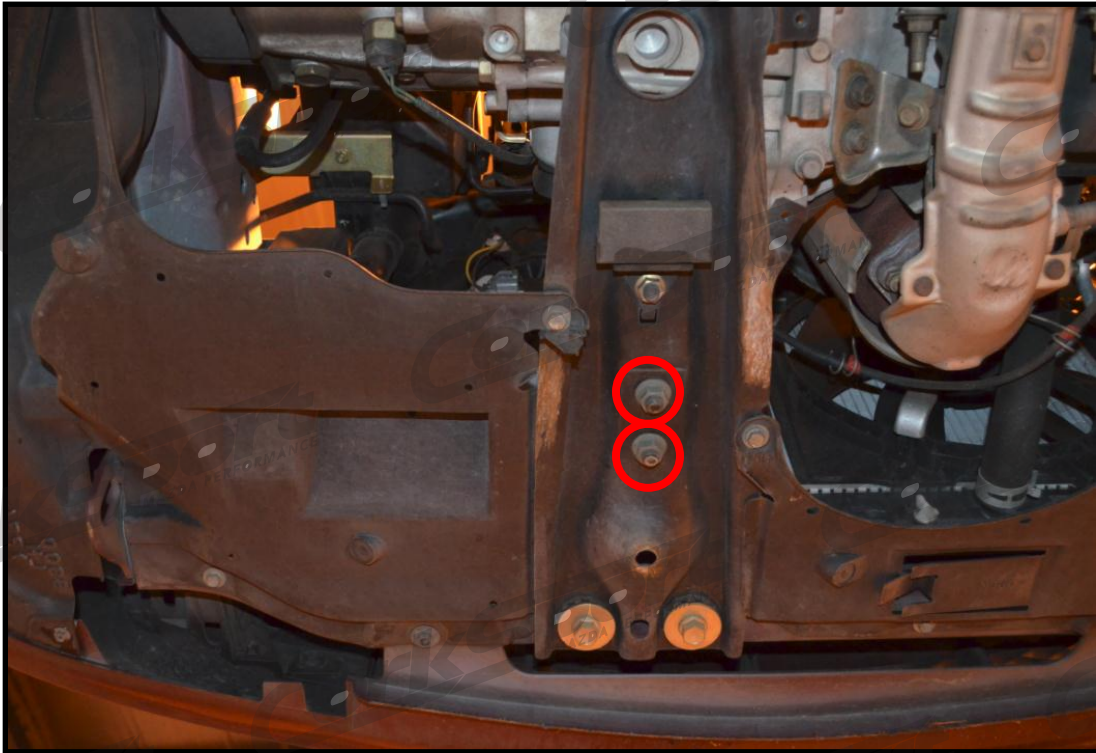

Figure 1a
b) Locate and remove the two 17mm nuts that hold the front motor mount to the subframe (shown circled in **Figure 1a**).
- f) Replace the two 17mm bolts removed in step 1b and torque the bolt to 54-66 ft.lbs. (refer to **Figure 1a**).